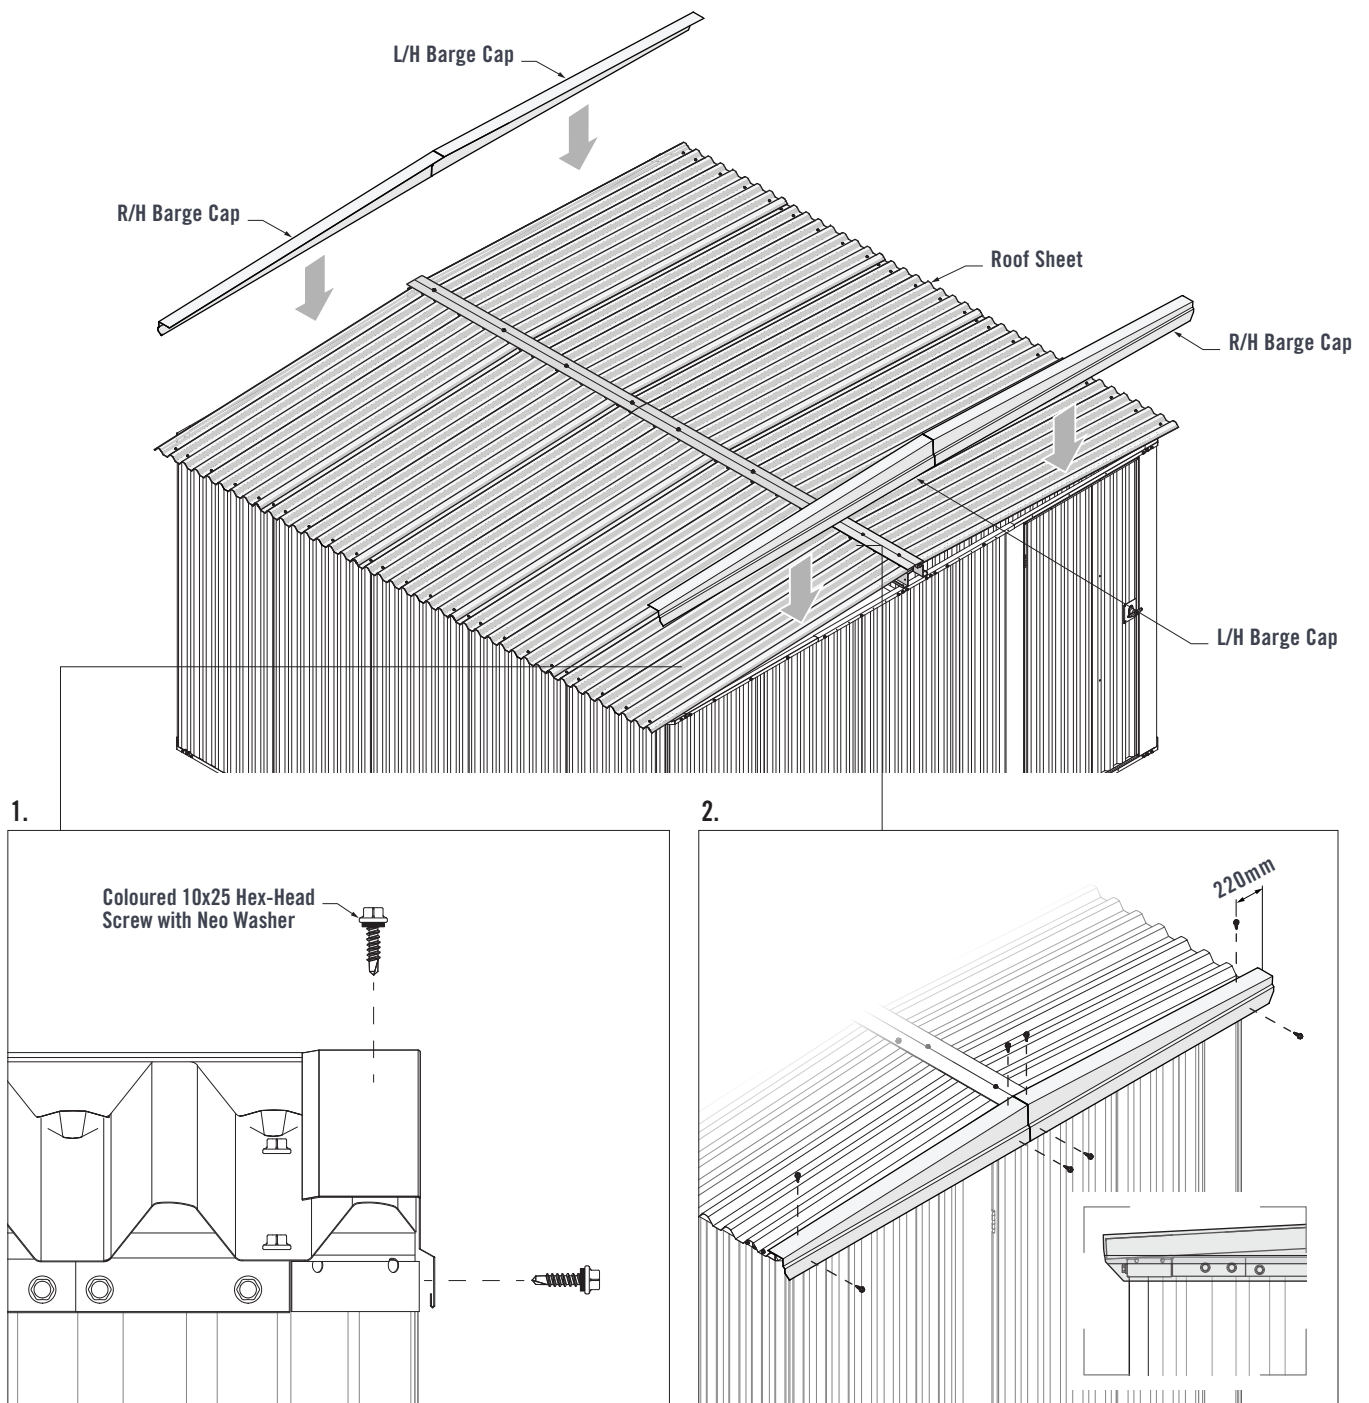

FIGURE 6.10
1. Place the L/H Barge Cap over the Roof Sheet at the front of the shed. The front face of the Barge Cap should fit up against the Roof Sheets (Figure 6.10).
2. The ends of the Barge Cap Should align with the end of the Roof Sheet. Fasten two coloured 10x25 Hex-Head Screws with Neo Washers through the front face of the Barge Cap and into the Wall Channel. Fasten two coloured 10x25 Hex-Head Screws with Neo Washers through the top of the Barge Cap and into the crests of the Roof Sheets (Figure 6.10).
Install the R/H Barge Cap in the same manner on the front right side of the shed. Install the remaining L/H and R/H Barge Caps to the rear of the shed in the same manner (Figure 6.10).